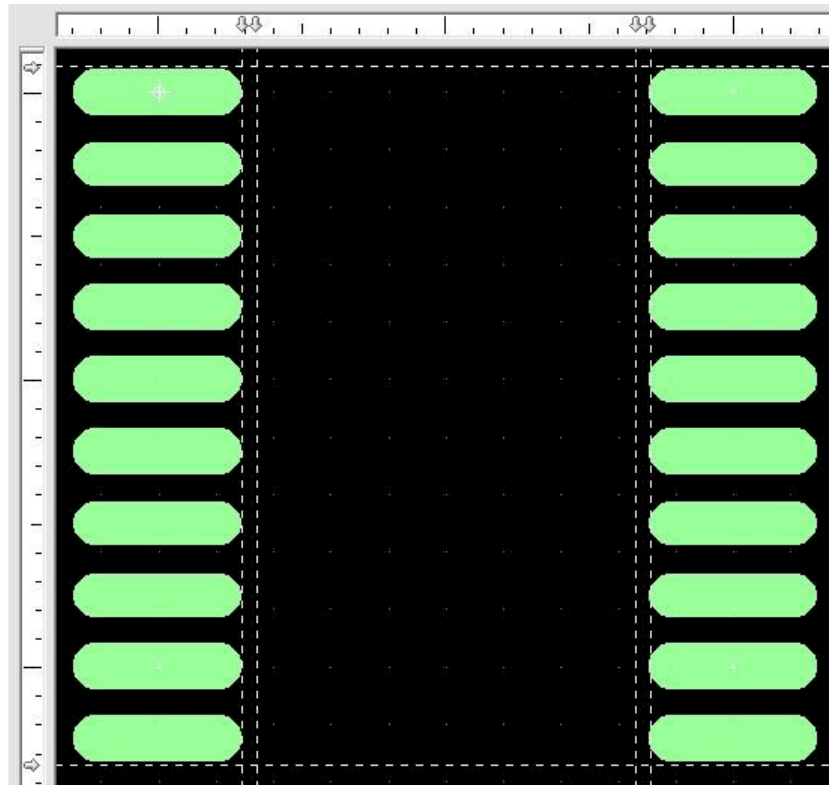

Figure 17 - The Ruler Bar
a.) Left-click in the horizontal (top) ruler bar area for a small arrow marker to appear and move the marker immediately to the right of pin 1 (Figure 17).
b.) Left-click to place a marker, 5 mils to the right of the marker placed in a. You will notice that the distance between two markers is displayed in the ruler bar (Figure 17).
c.) On the vertical (left) ruler bar place another marker directly above pin 1 (Figure 17).
d.) Repeat a.), b.) and c.) to align ruler bar markers at the right and bottom of the SMD pad arrays as shown in Figure 17.